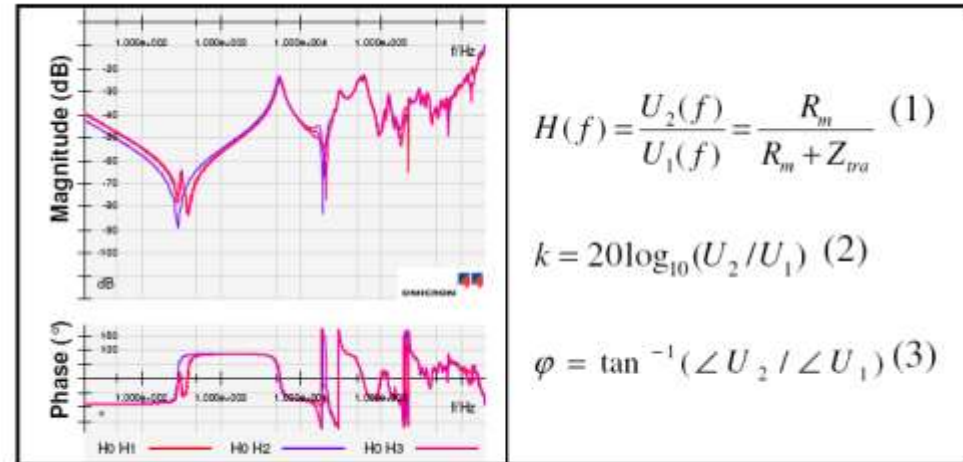

Figure 2. Graphical representation of FRA results
The most common way of representing the results is as bode diagrams as shown in Fig.2. in the majority of the cases only the plot of the magnitude is used for interpretation purpose. Nevertheless, the plot of the phase also provides valuable information. The magnitude and the phase are computed according to the equations (2) and (3).